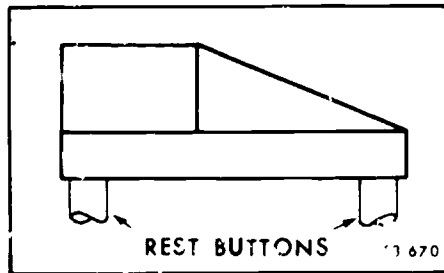

Figure 1-16 Wide separation of rest buttons
**Surface Conditions.** Both types of locators and the number of locators needed to position a part depend upon the finish of the locating surfaces on that part. The three kinds of surfaces usually found on parts are these: (1) finished, (2) semifinished, and (3) rough.
**Rough surfaces.** Rough surfaces are unmachined and have wide variations. To cope with rough surfaces, keep the locating buttons as far apart as possible to minimize the difference in position of the parts that are being machined, as shown in figure 1-16. Also, use the minimum number of locating points necessary to hold the part rigidly.